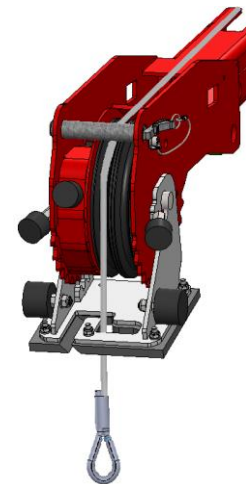

Figure: 41
- Run the winch cable over the winch head. First remove the upper pin in the winch head. Place the winch cable over the middle winch cable sheave and fit the upper pin again. Position the cable properly through the winch-weight stopper (see figure 41).